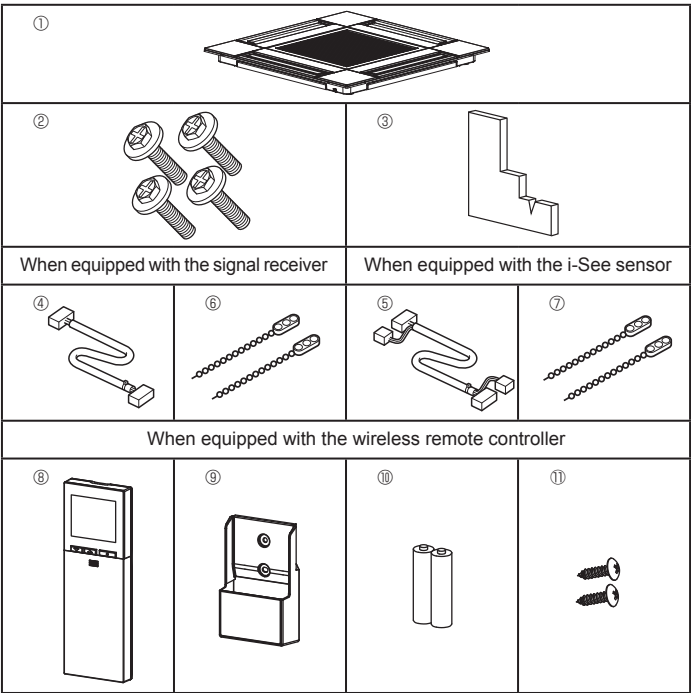

Fig. 10-1
10.1. Check the grille accessories (Fig. 10-1)